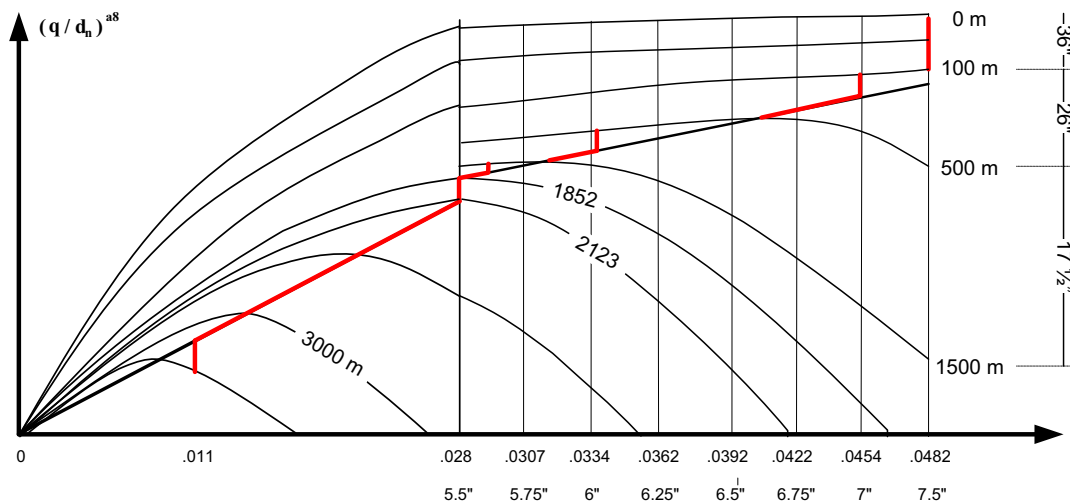

Figure 4-6: Graphical solution.
- d) From Table 4-6 in the Task section above we can see that at a depth between 1 500 and 3 000 m there are two potential options. However, from Figure 4-6 above we already know that while drilling past 1 852 m we enter pump range I, and starts applying the 5 ½ “ liner. We also see that the maximum flow rate of the 5 ½” liner is the optimum one for most of its operational time. This has already been shown in task b) above.